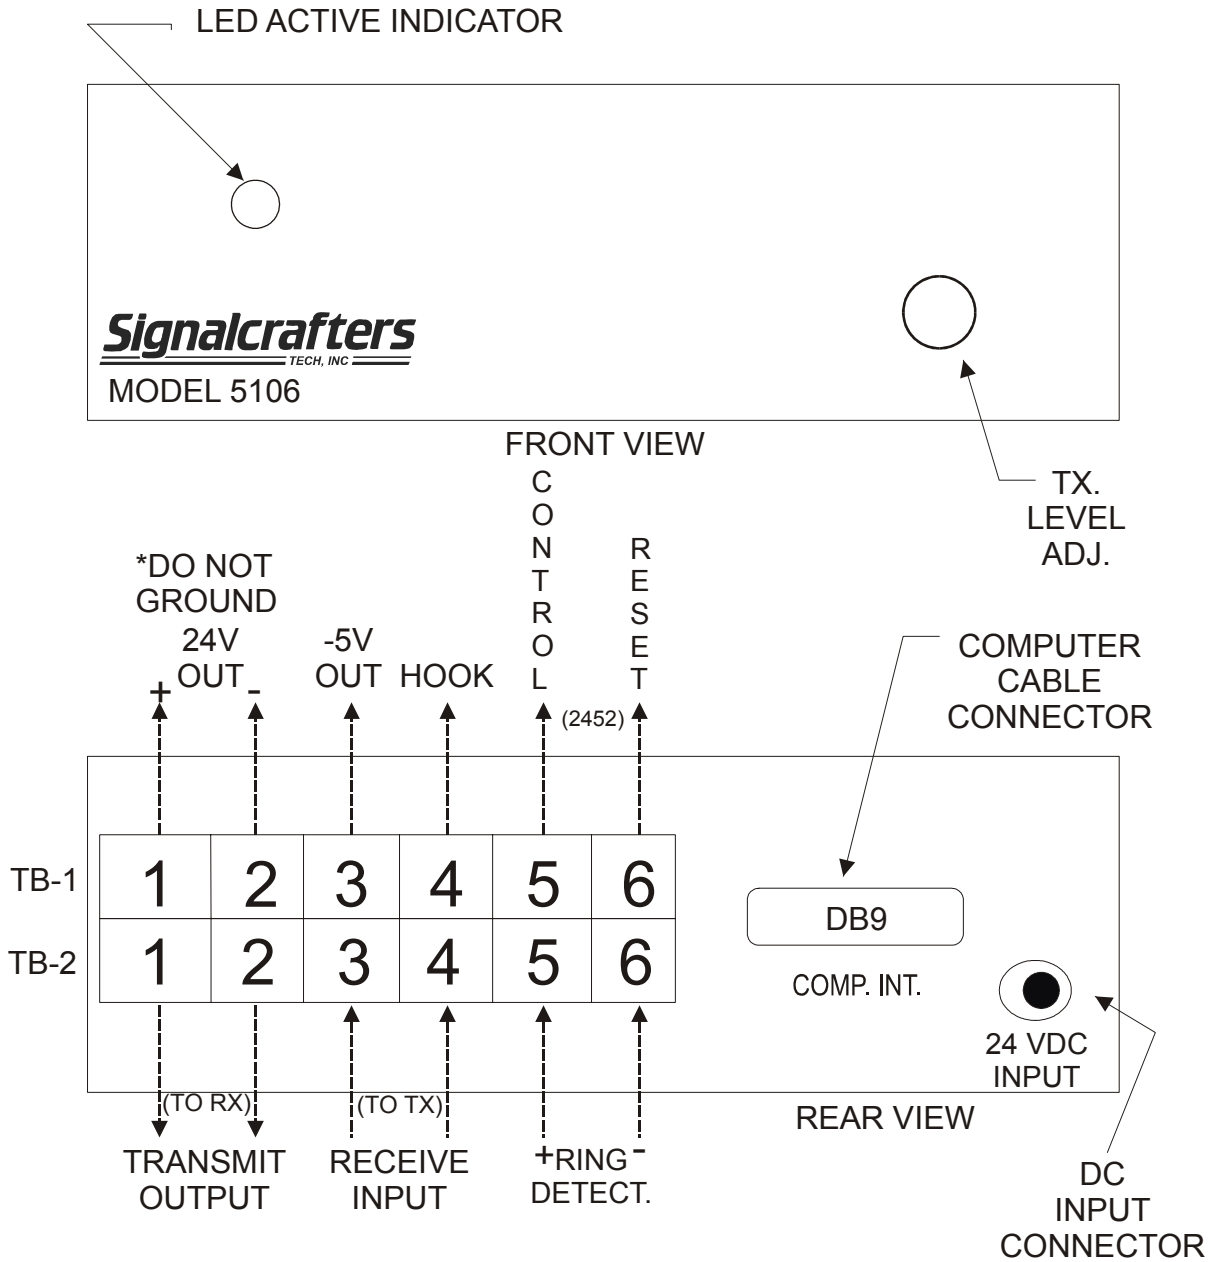

Figure 1 FRONT/REAR VIEW
5.6 Terminal Connections: Model 5106 can be used with both an audio line as well as a PSTN (Public Switched Telephone Network). When used with a PSTN a registered coupler (Signalcrafters Model 2945) is often required and mandatory (Check with your local telephone provider for requirements). Connections made depend on the application and all connections may not be required. Refer to Figure 1.
5.8 Controls and Indicators: (Refer to Figure 1)